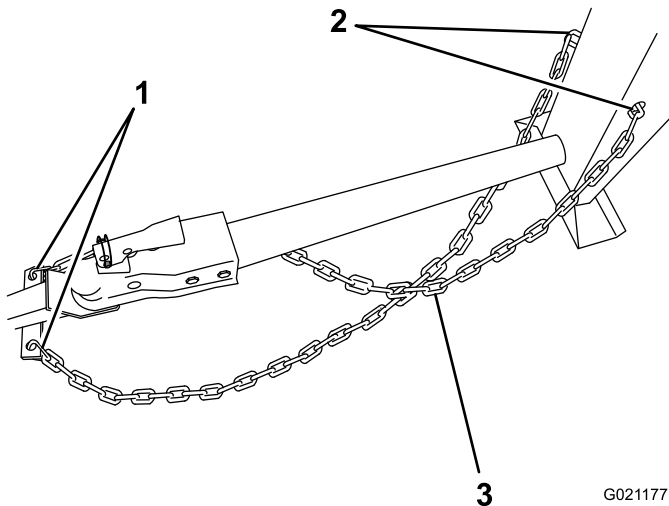
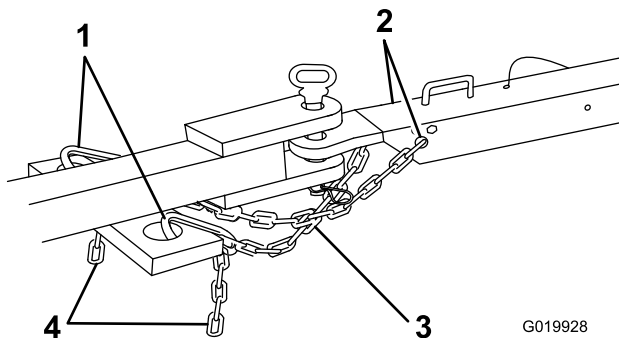

Figure 26
Figure 27
2. Cross both lengths of chain **under** the tow pole (under the tongue for end-dump models 68007 and 68008). For models 68004, 68006, and 68009 refer to Figure 26. For models 68007 and 68008 refer to Figure 27.